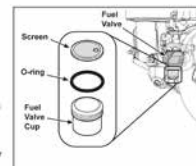

Figure 30. Fuel Valve Cup, O-ring, and Screen.
4. Remove the fuel valve cap. See Figure 30.